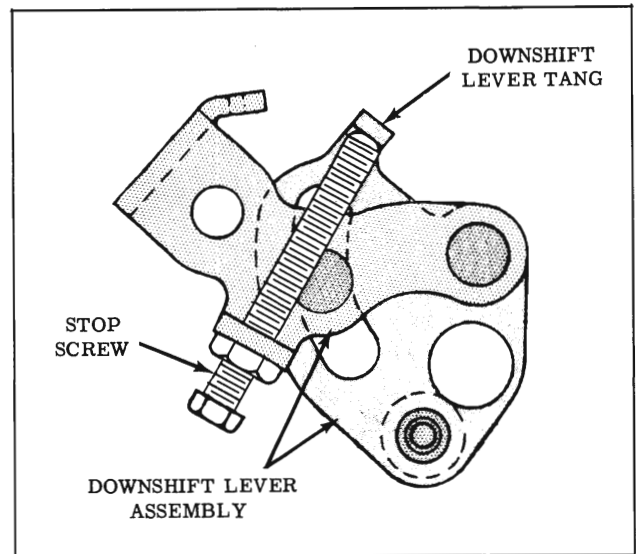

Fig. 3-130 Throttle Downshift Stop Screw Adjustment
- c. Allow the throttle valves to return to a closed position, then turn stop screw in 1-1/2 to 2 turns and tighten jam nut. (Fig. 3-130)